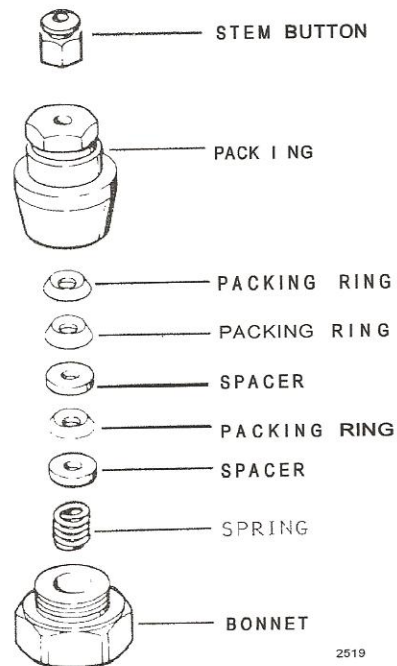

Fig. 3. Packing Assembly
1. With the operator removed, insert a nail, awl pin, or similar instrument into the 1/16 in. diameter hole near the top of the valve stem. Prevent stem from turning and remove the stem button (16). Important: DO NOT remove the setscrew from the top of the button.
2. Pull stem up and remove packing nut (6), old packing (18), spacers (7) and packing spring (9). See Fig. 3 for exploded view of packing components.